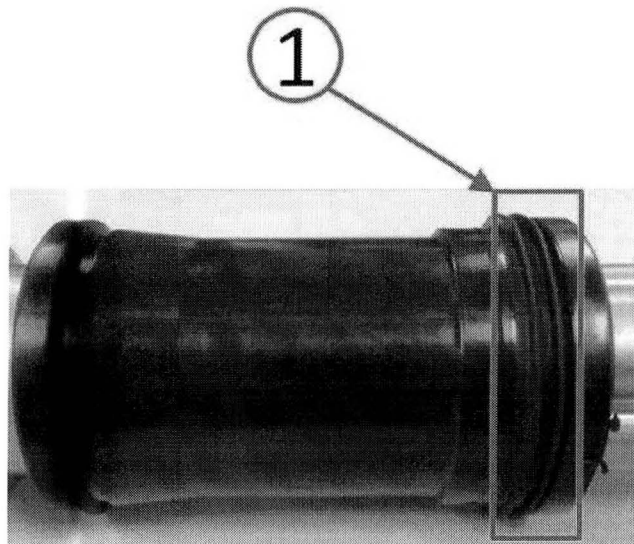

Fig. 3 Wiper Seal To Be Removed
3. Completely remove the rubber wiper seal (Fig. 3).